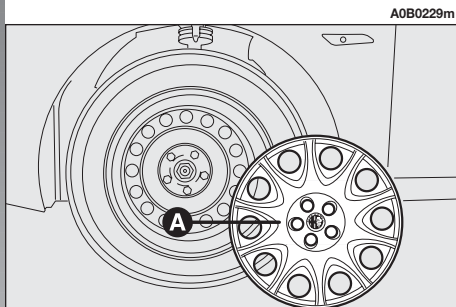

fig. 3
- Remove the wheel cap (**A-fig. 3**) (for versions with steel rims only).